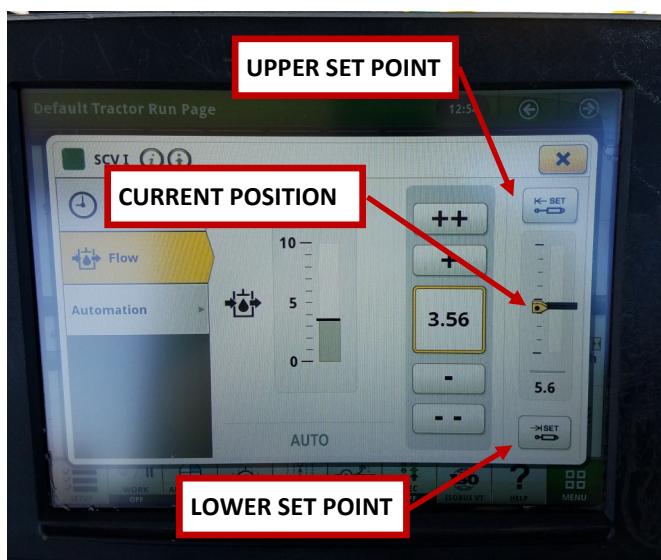

Figure 7-45:
8. Once the axle is centered, press the upper and lower set points on the monitor to set the center for your steering. See Figure 7-45.